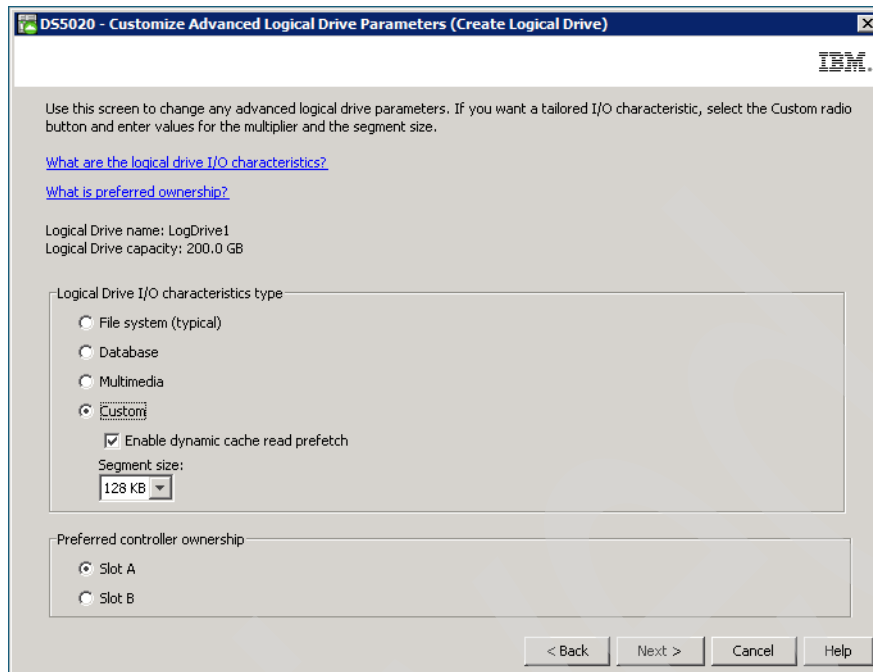

Figure 4-61 Customize logical drive parameters
7. The Customize Advanced Logical Drive Parameters window opens (Figure 4-61). You can set your new logical drive using any of the predefined I/O types listed, or manually set the cache read ahead multiplier, segment size, and controller ownership.